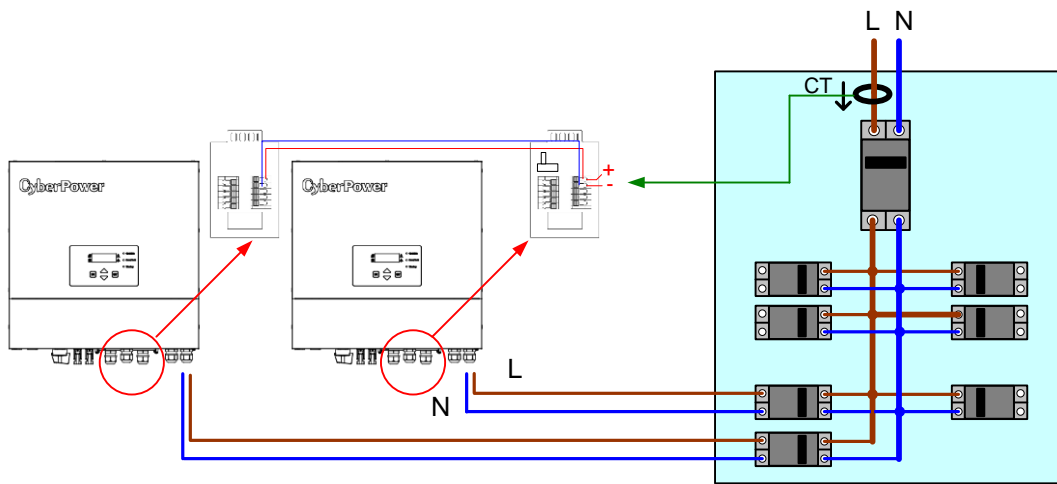
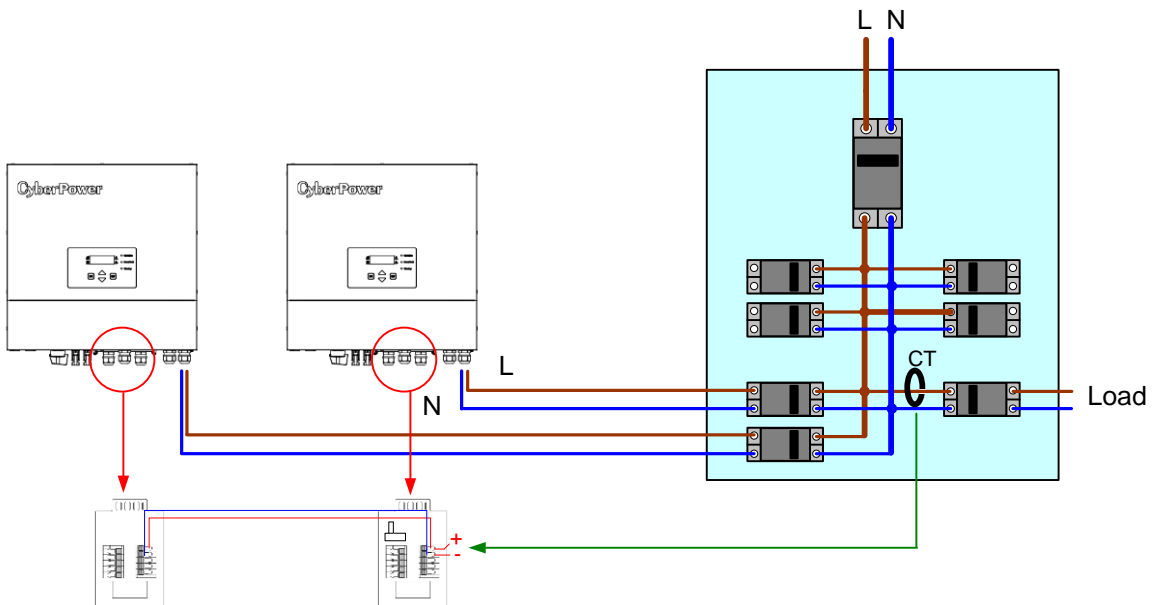

Fig. 3-16 Self-consumption wiring, CT on the main line
Fig. 3-17 Self-consumption wiring, CT on the load line
1. According to the requirement, if want to balance total consumption, place the CT to clamp the main line from Utility (ex. L in main distribution panel). **The CT direction must be from Grid to load** (refer to Fig. 3-16). If want to balance particular load, pace the CT to clamp the particular load line, don't have to care the CT direction since inverter measure the absolute power value (refer to Fig. 3-17).